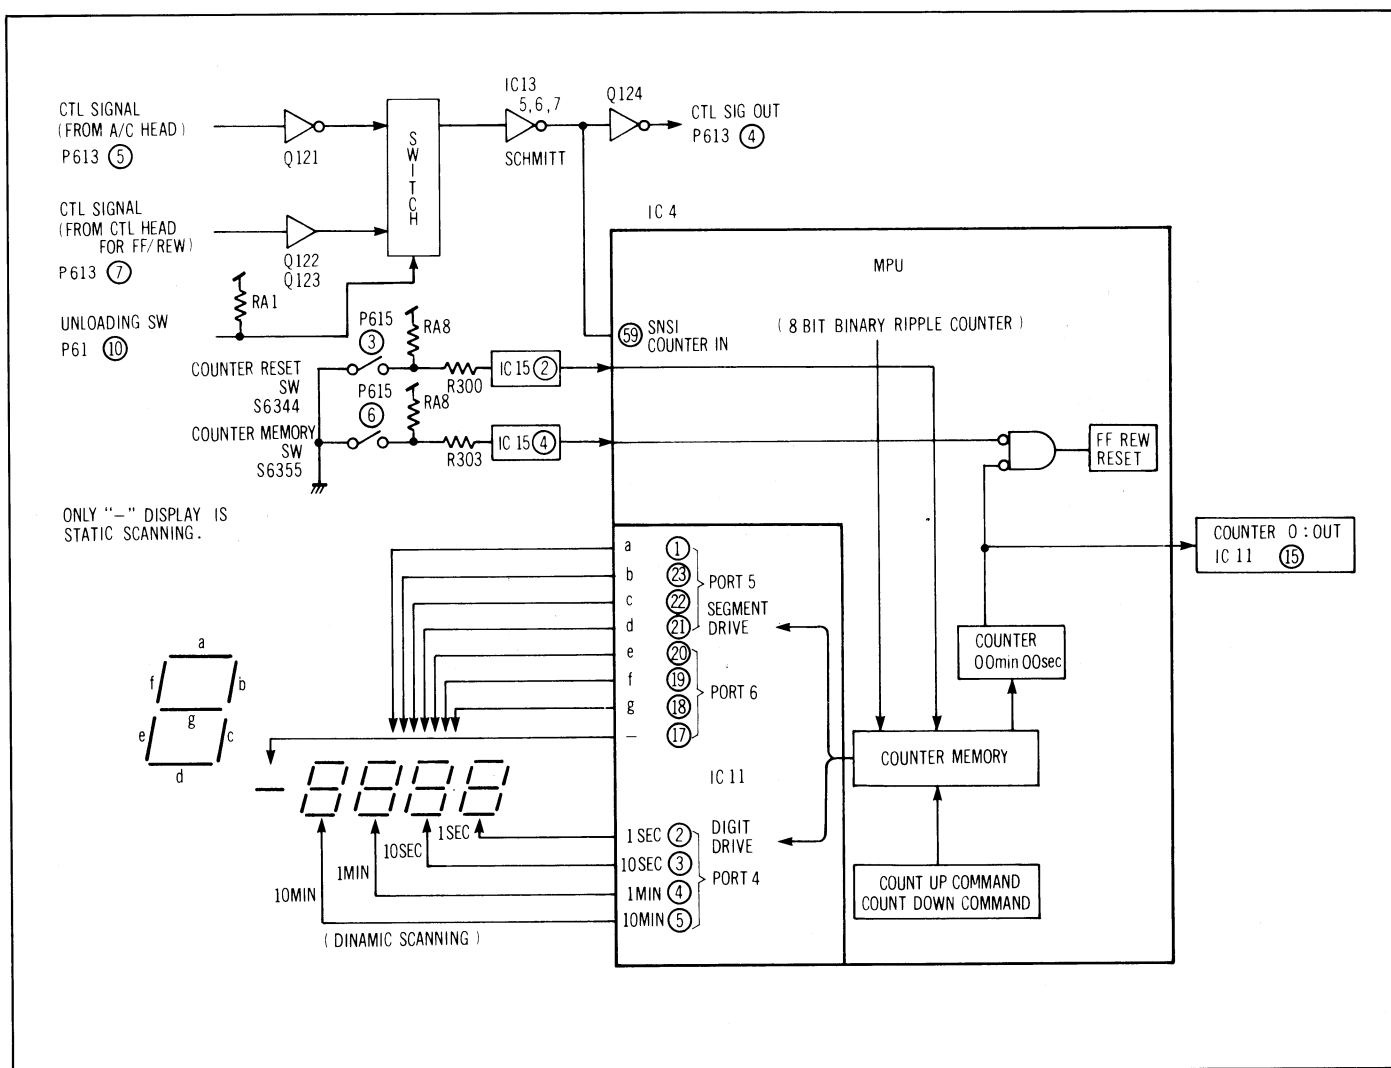

Figure 2-35
As shown in Fig. 2-35, the control signal is converted to a square wave by a Schmitt trigger circuit. The output square wave at IC13-(7) serves as the SNS1 input of IC4 and it starts to count the control signal. The MPU (IC4) contains an 8 bit binary ripple counter. The MPU also drives the segments and the digits, after data manipulation, through the output expander IC11. Note that the processor outputs segment on and off (1 and 0) data, not the actual numbers.